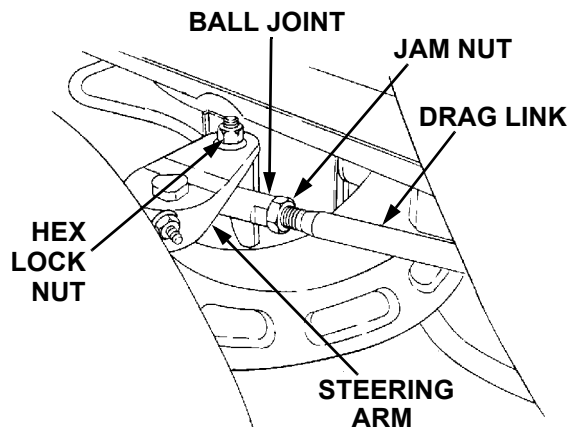

Figure 15
5. Loosen the jam nuts from the ball joints (See Figure 15).
6. Disconnect the front ball joints from the steering arms by removing the hex lock nuts (Refer to Figure 15). Manually move each wheel to achieve the required toe-in *and* equal D measurements.